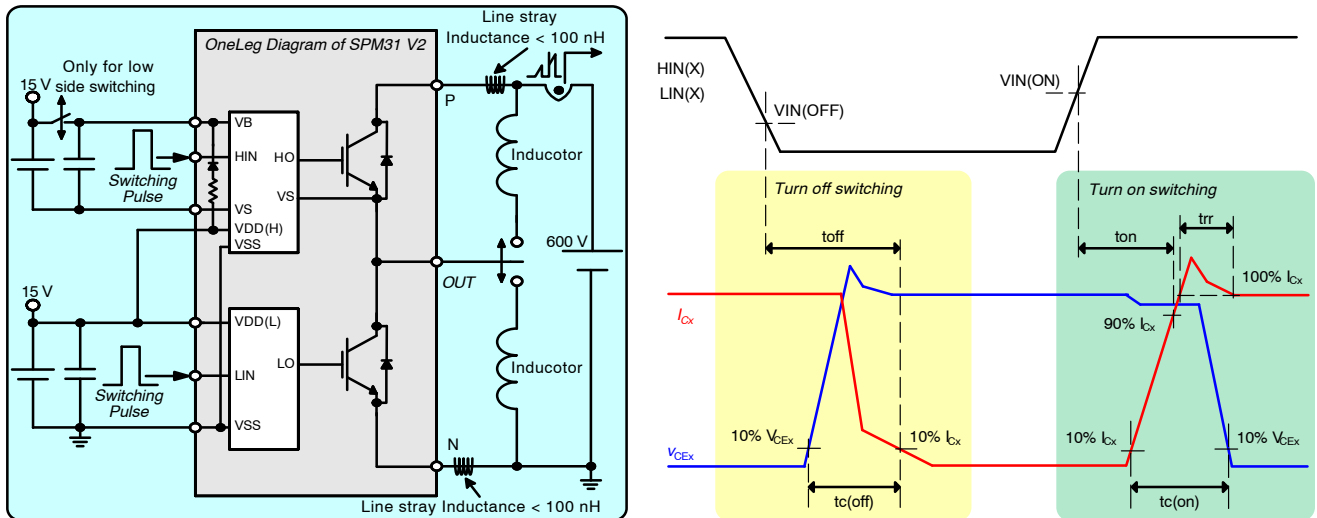

Figure 9. Switching Evaluation Circuit and Switching Time Definition
7. ton and toff include the propagation delay time of the internal drive IC. tc(on) and tc(off) are the switching time of IGBT itself under the given gate driving condition internally. For the detailed information, please see and Figure 9.